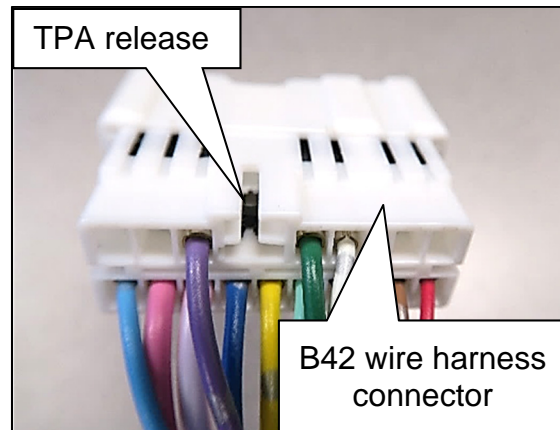

Figure 23
- The TPA release is located on the harness side of the B42 wire harness connector (Figure 23).